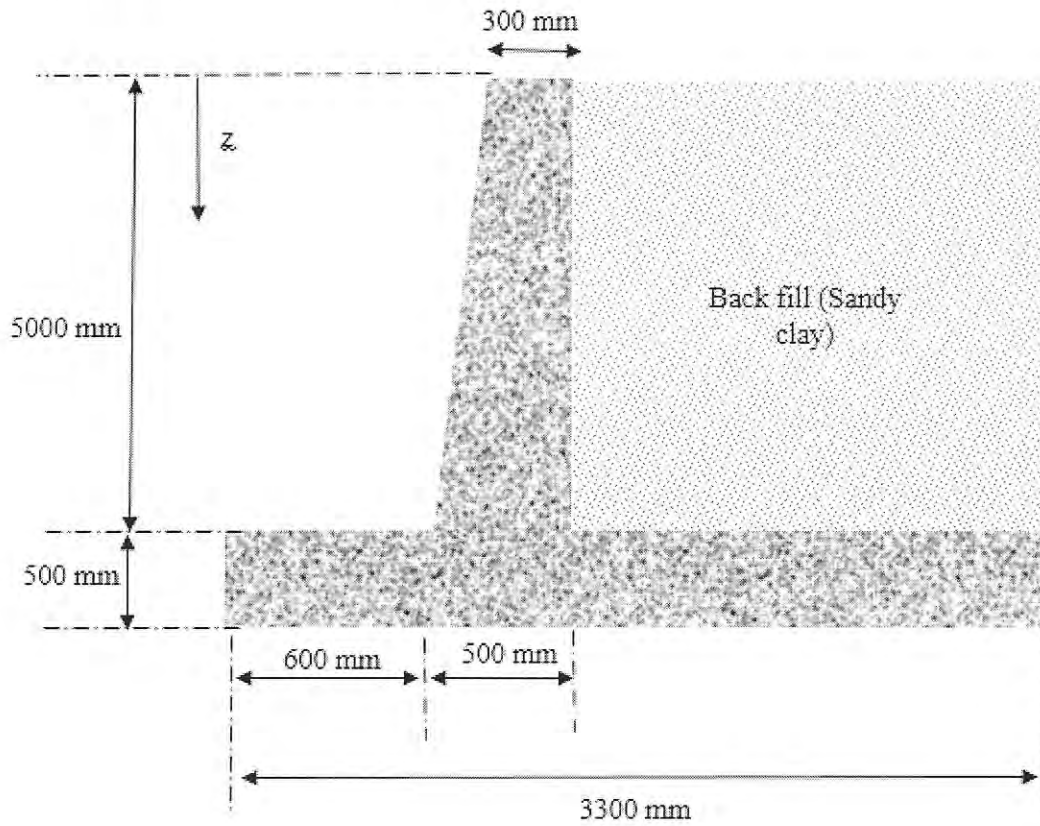

FIGURE Q4
**Q4** A cantilever retaining wall, as shown in **Figure Q4**, supports earth backfill of 5000mm height. The soil in the surrounding area is sandy clay mixture with density, 20 kN/m3. Meanwhile, the friction coefficient of base-soil is 0.45 and density of concrete is 25 kN/m3. The active soil pressure at any depth, z is expressed by  $p = 6.6z$  kN/m2.